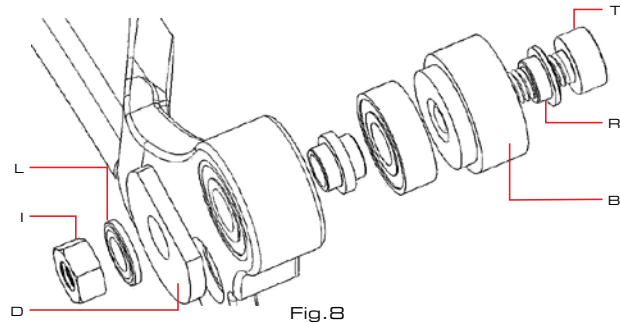

Fig.8
1. Orient the tools as seen in Fig. 8.